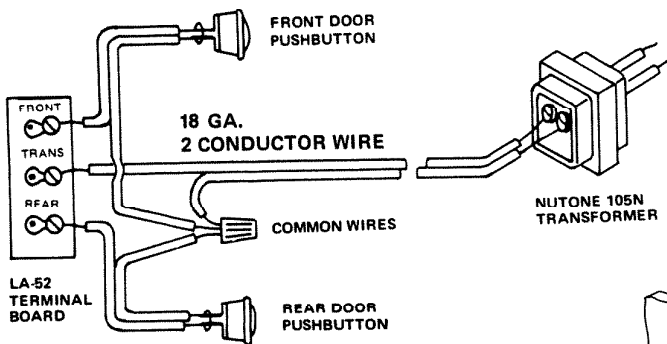

FIGURE 2
If any additional wires (for example — side door) are present which are not required by the wiring diagram (page 3, Figure 2), cap these wires individually with a wire nut and electrical tape.
4. Connect the transformer and pushbutton wires to the LA-52's terminal board, as shown in Figure 2.